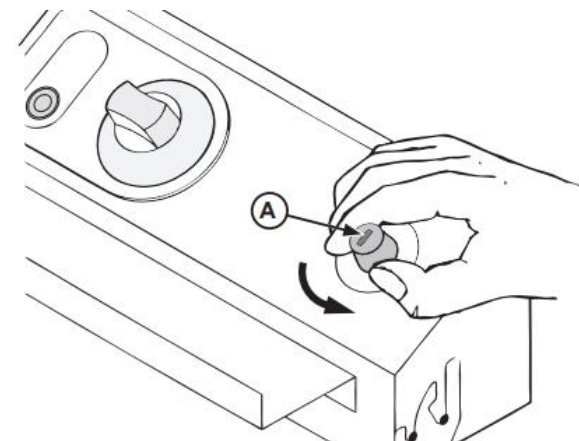

Fig 1. Reset Button-Temperature Limiter
- (8) If for any reasons, the cooking temperature gets too high (exceeds 446° F/230°C), an overheat facility-Reset Button/Temperature Limiter (A, see Fig.1, it normally locates on the front control panel or back of the electric box) will cut the power off . It can be reset by allowing the unit to cool to room temperature then unscrew the cap of reset button counterclockwise. Use a pen or similar narrow tool (A) and press the reset button (B) down (see Fig. 2). The button should stay in the down or in the set position